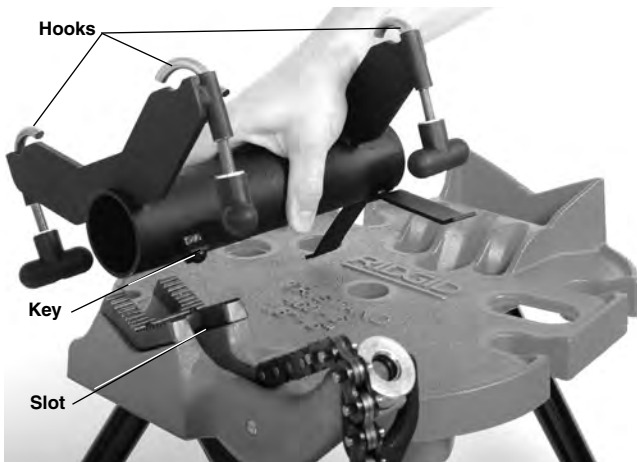

Figure 8 – Mounting the Adapter on Vise
2. Place the cylindrical body of the adapter in the V-jaw of the vise as shown in *Figure 8*. Locate the key into the slot of the vise jaw for proper positioning and stability.